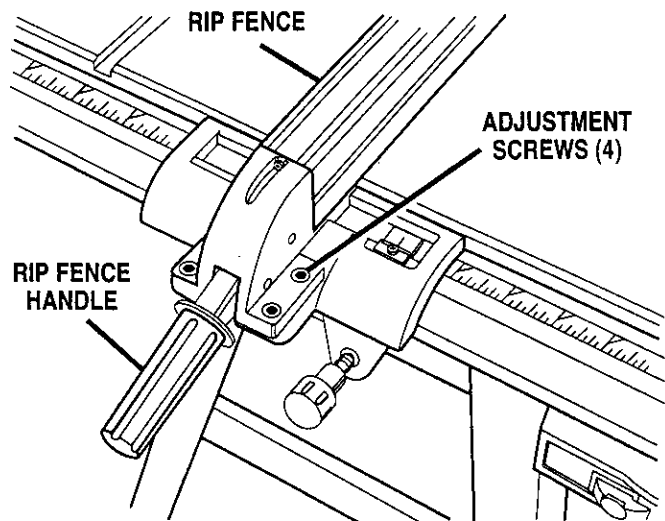

Fig. 16
- If the distances are different, loosen the four screws around the rip fence handle with a 6 mm hex key. Alternate the order (remove the screw opposite, not next to the first one). See Figure 16.